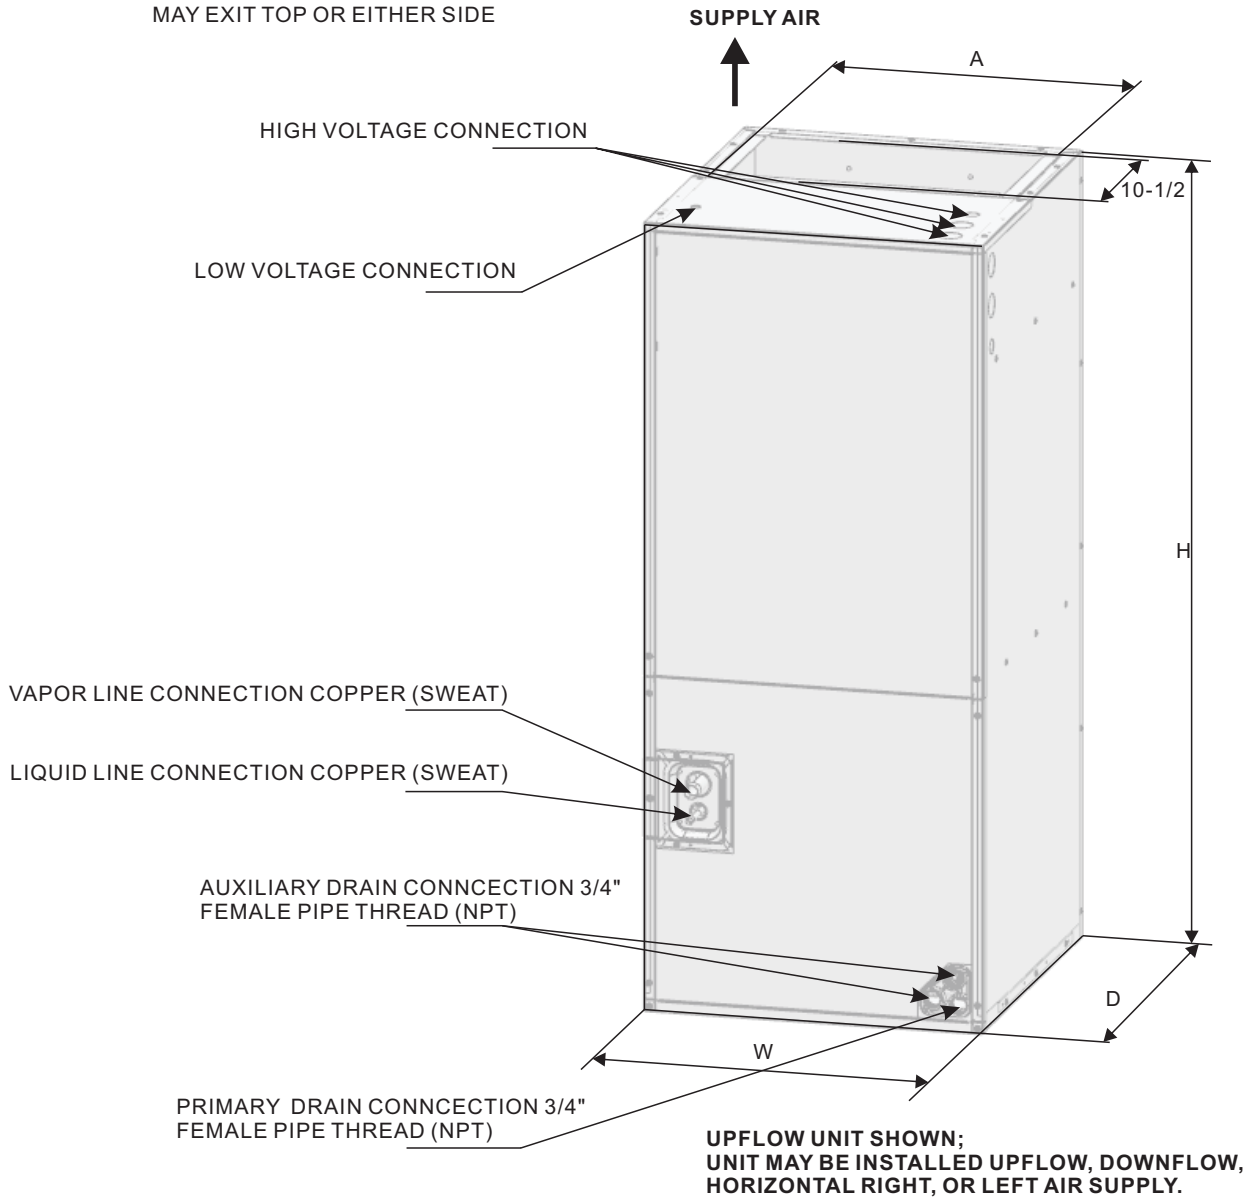

Fig.1 DIMENSIONS
Top and side power and control wiring, accessible screw terminals for control wiring all combine to make the installation easy, and minimize installation cost. Please contact your local distributor. See Fig.1.
- 1) Vertical Upflow configuration is the factory set on all models (see Fig 1)
Torque applied to drain connections should not exceed 15.ft.lbs.(see Fig.1&2)